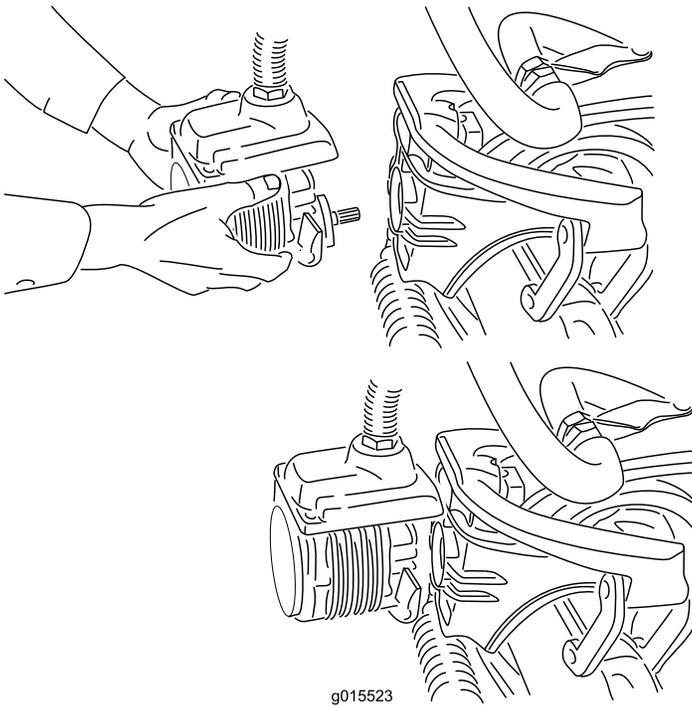

Figure 39
4. Move the motor to the storage location on the front of the suspension arm (Figure 39).